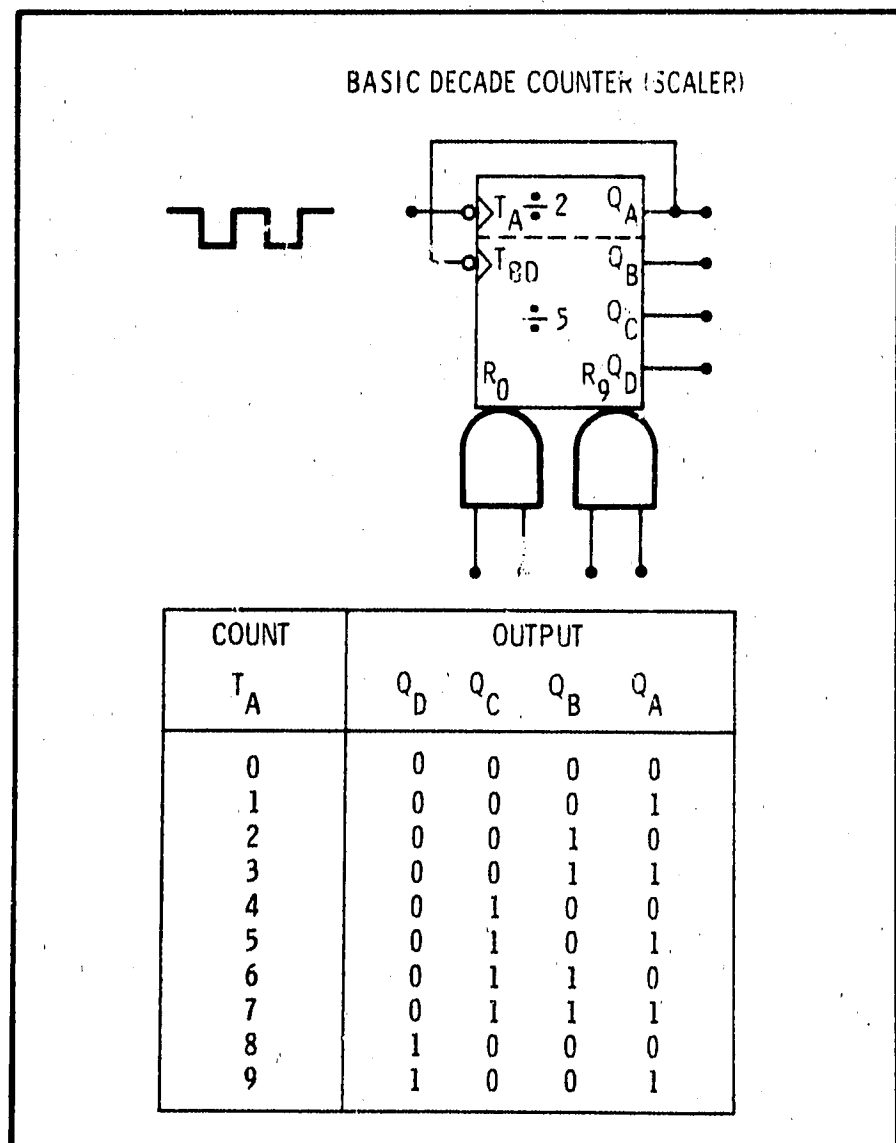

Figure 8-6. Basic Decade Counter (Scaler)
**8-33. Basic Counter.** The basic decade counter (or scaler or divider), shown in Figure 8-6, has ten logic states. The active-high outputs ( $Q_A$ ,  $Q_B$ ,  $Q_C$ , and  $Q_D$ ) increment by one BCD count each time the trigger ( $T_A$ ) or clock input goes from a high to a low. The count sequence is also shown in the figure. The counter may be subdivided into a divide-by-two and a divide-by-five counter. The two counters are connected in series (the  $Q_A$  output connected to the  $T_{BD}$  input) to obtain a divide-by-ten counter. The counter has two ANDed clear or reset-to-zero ( $R_0$ ) inputs. When both  $R_0$  inputs are high, the outputs clear to zero. The clear function overrides the clock. Similarly, the two ANDed set or reset-to-nine ( $R_9$ ) inputs set the outputs to the nine count. If all reset-to-zero and reset-to-nine inputs are simultaneously high, the reset-to-nine overrides the reset-to-zero.